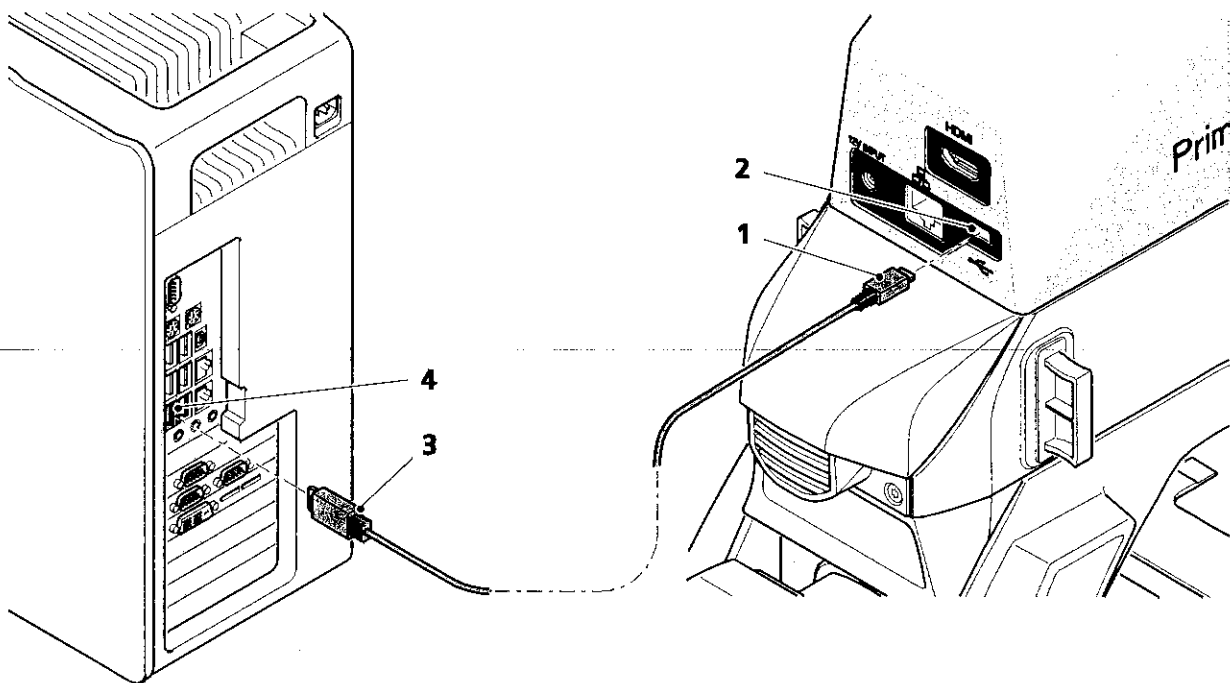

Fig. 7 Data transfer to the PC via USB port
- Insert the mini USB plug (Fig. 7/1) into the USB 2.0 port (Fig. 7/2) on the reverse side of the binocular tube 30°/20.
- Insert the USB 2.0 plug (Fig. 7/3) into the PC (Fig. 7/4).